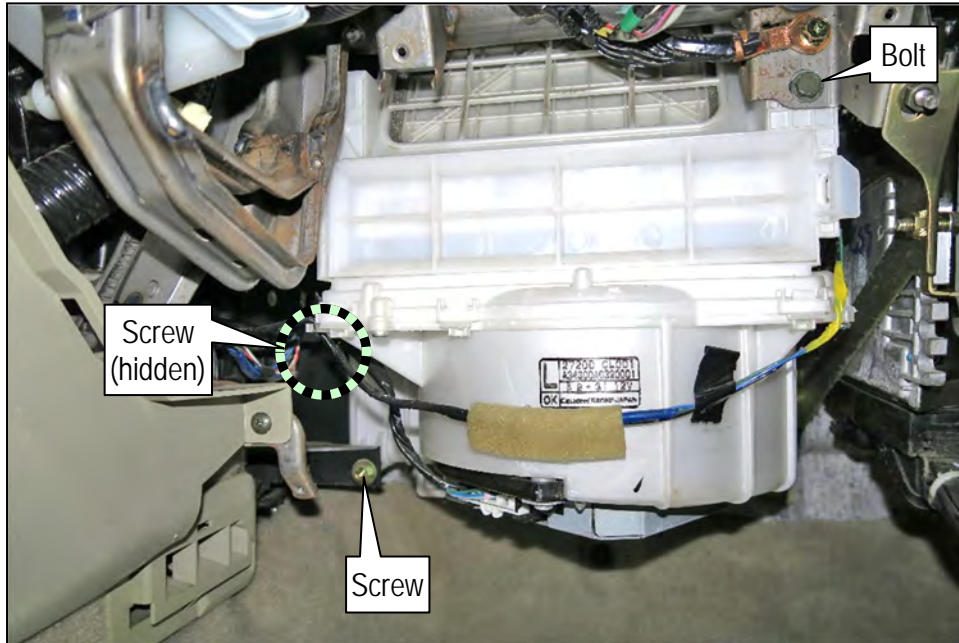

Figure 11
- 14. Remove the two (2) screws and one (1) bolt (Figure 11).
HINT: One (1) of the two (2) screws is hidden (Figure 11).